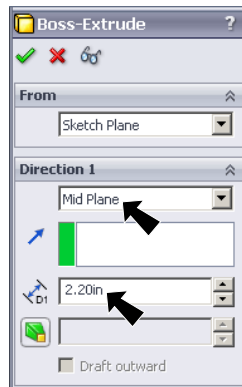

Fig. 15
Step 3. In the Property Manager set: under **Direction 1**, Fig. 15